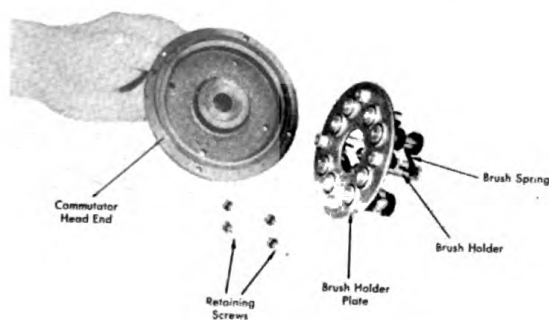

Figure 203. Commutator Head End.
C. Remove the commutator and head holding screws. Take the head off the motor. See Figure 203.
A. Disassemble the brush holder plate from the head, See Figure 203.